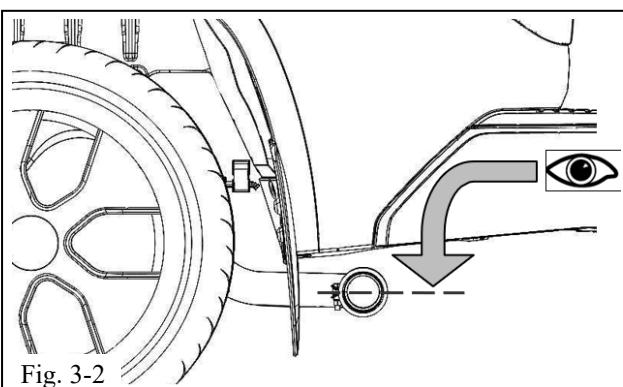

Fig. 3-2
- (b) Align the tip as shown in (Fig 3-2)